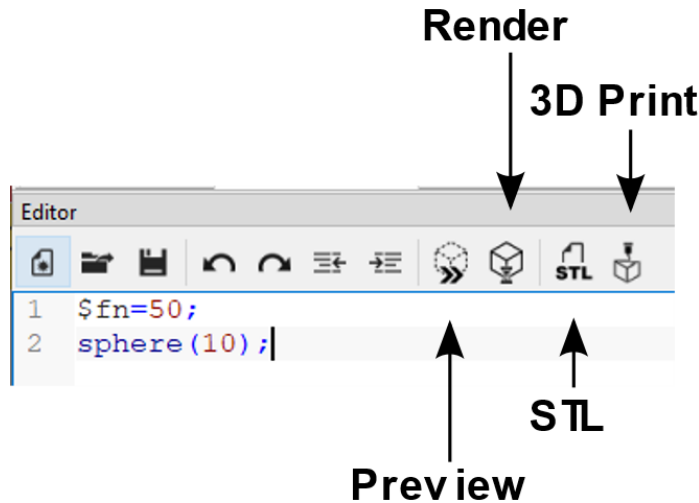

Figure 4.11 – OpenSCAD Editor
2. Hit **F5** on the computer keyboard or click on the **Preview** (as shown in *Figure 4.11*) button on the top menu.
In **Editor**, we can see 11 icons across the top (*Figure 4.11*). From the left to the right, we have the standard **New File**, **Open File**, **Save**, **Undo**, **Redo**, **Unindent**, and **Indent** buttons (make sure **Hide Editor toolbar** is unchecked under the **View** menu, if you cannot see the icons).